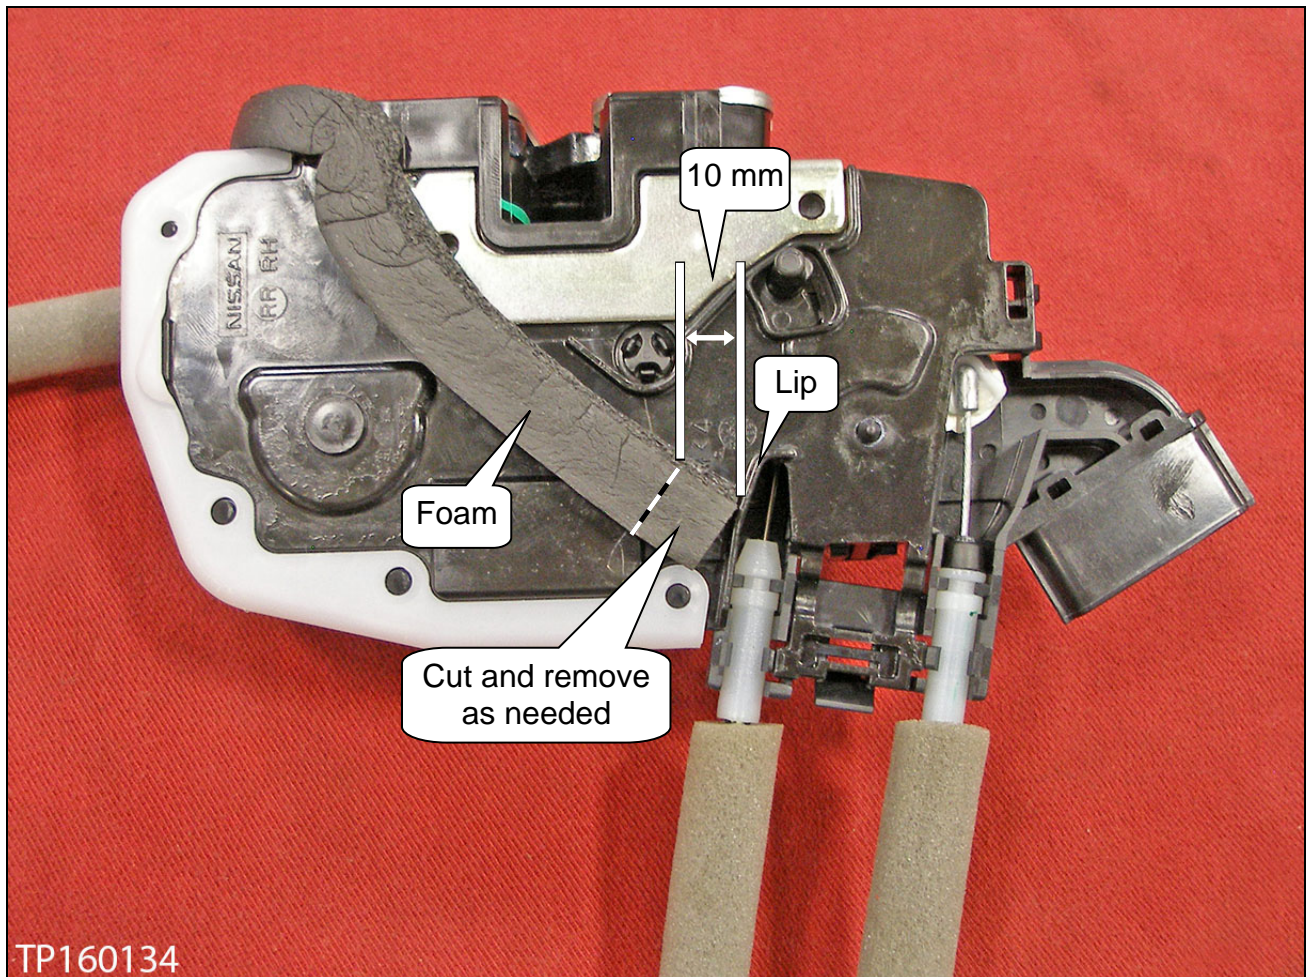

Figure 7
4. New door lock: Inspect the gap between the end of the existing foam and the lip shown in Figure 7.